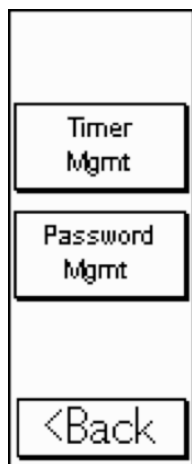

Figure 3
2. Press "DFP" logo to access hidden menu to modify timer value and passwords. Password required. (see Figure 3: Management Screen)
1. Press "Timer Management" to modify the timer value. (see Figure 3: Management Screen)
1. Press "Password Management" to add/modify/delete passwords. (see Figure 3: Management Screen)